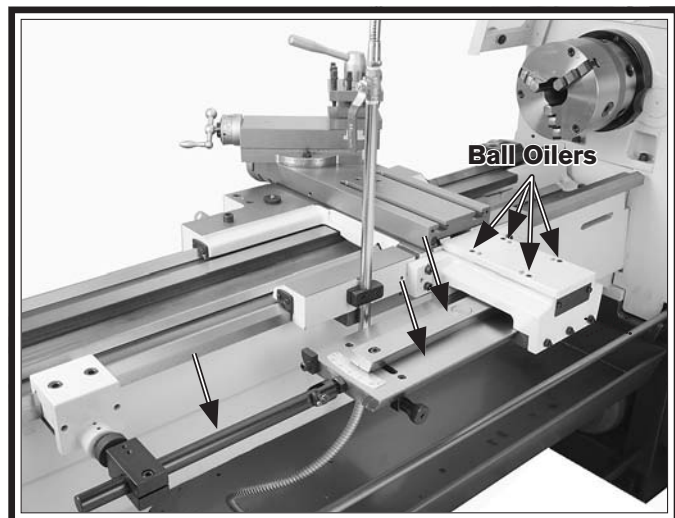

Figure 28. Lubrication locations.
2. Using an oil can with the same oil you use on your lathe ball oilers, apply liberal amounts of oil to the four ball oilers, the pivot pin, and the dovetail surface shown in **Figures 28–30**.